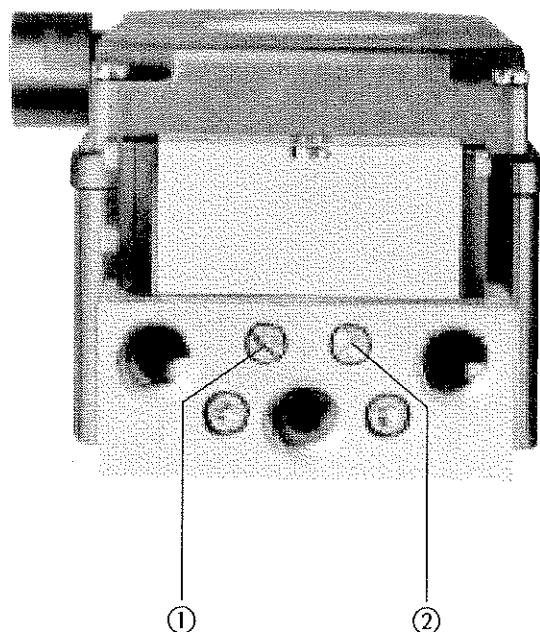

Fig. 9
These devices are equipped with supply air restrictors/exhaust air restrictors (see Fig. 9). Different closing and opening times can be adjusted by turning the restricting screws ① and ② to the right (opening) or to the left (closing) using a screw driver (e. g. for rotary actuators at a ratio of 1:15).